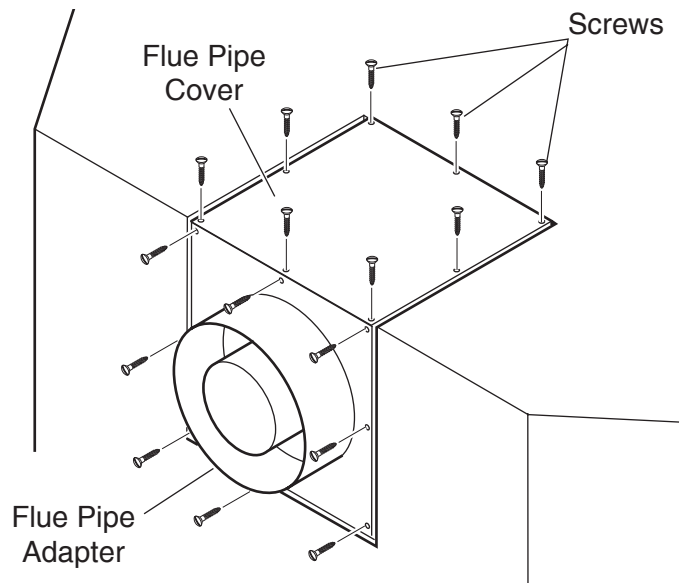

Figure 9 - Removing sixteen (16) Screws from Flue Pipe Adapter and Flue Pipe Cover
1. Remove the eight (8) screws securing the flue pipe adapter to the fireplace body. *See Figure 9.*
3. Remove the eight (8) screws securing the flue pipe cover to the top of the intake box and remove the cover and gasket. *See Figure 9.*